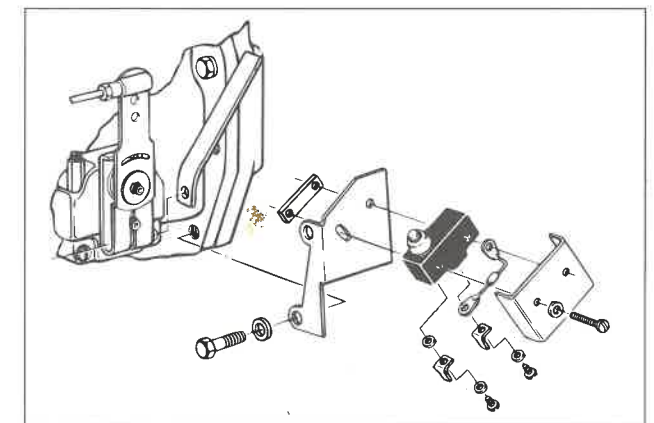

FIG. 25
1. Refer to Fig. 25 and remove the two governor screws from the rear of the fuel pump assembly. Install the Jacobs fuel pump switch using the two governor screws. Torque to 100 lb.-in. (11 N•m).